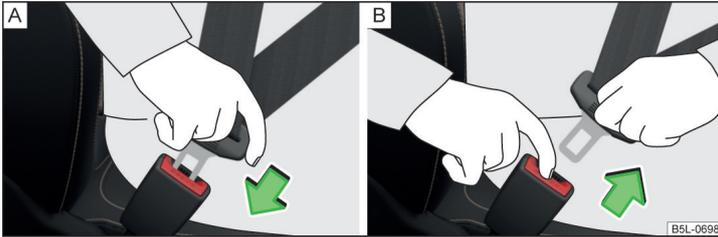

Fig. 5 Fastening/unfastening the seat belt
- › Insert the lock tongue into the belt buckle for the seat » Fig. 5 - A until it audibly clicks into place.
- › Press the red button in the belt buckle » Fig. 5 - B; the lock tongue pops out.